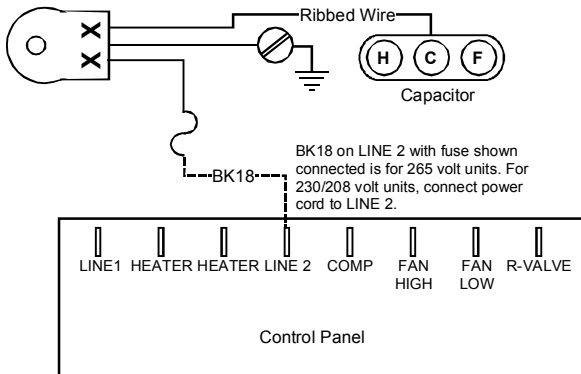

Figure 3
- Connect the ribbed lead to the C terminal on the capacitor (Figure 3).
- On 230/208 volt units connect the smooth lead to LINE 2 terminal on the control board (Figure 3).
On 265 volt units connect the smooth lead to the fuseholder (Figure 3).
- Connect the power cord's green ground wire to the partition panel using the ground screw provided in the kit (Figure 3).